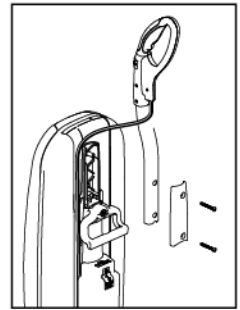

Fig. 2
- Place handle onto the back of the vacuum, aligning holes with pegs (Fig. 2).